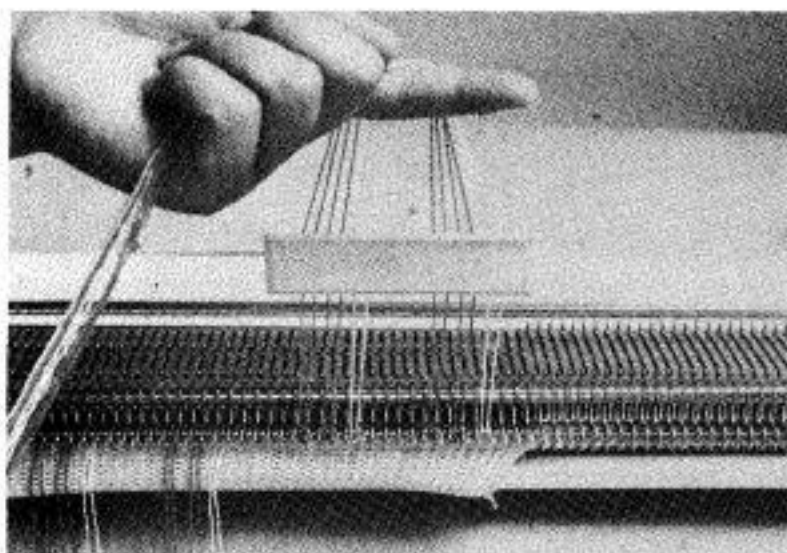

Fig. 155
- (e) Raise the Vertical Pattern Knitter as shown in Fig. 155.
- (d) Raise the Vertical Pattern Knitter as shown in Fig. 155 and place each strand of cotton into the hook of the adjacent needle to the left as you lower the Vertical Pattern Knitter. Knit this row by moving the Carriage from left to right.